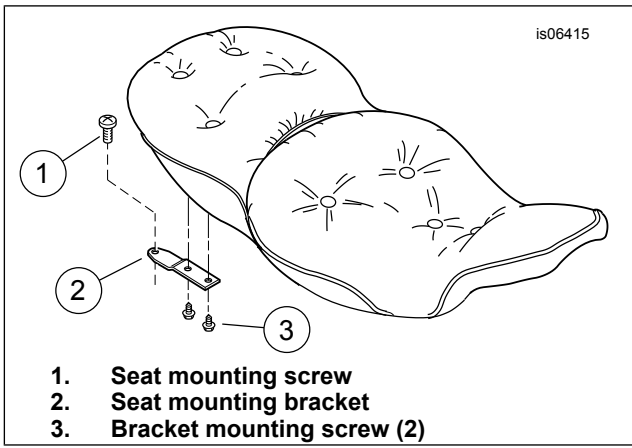
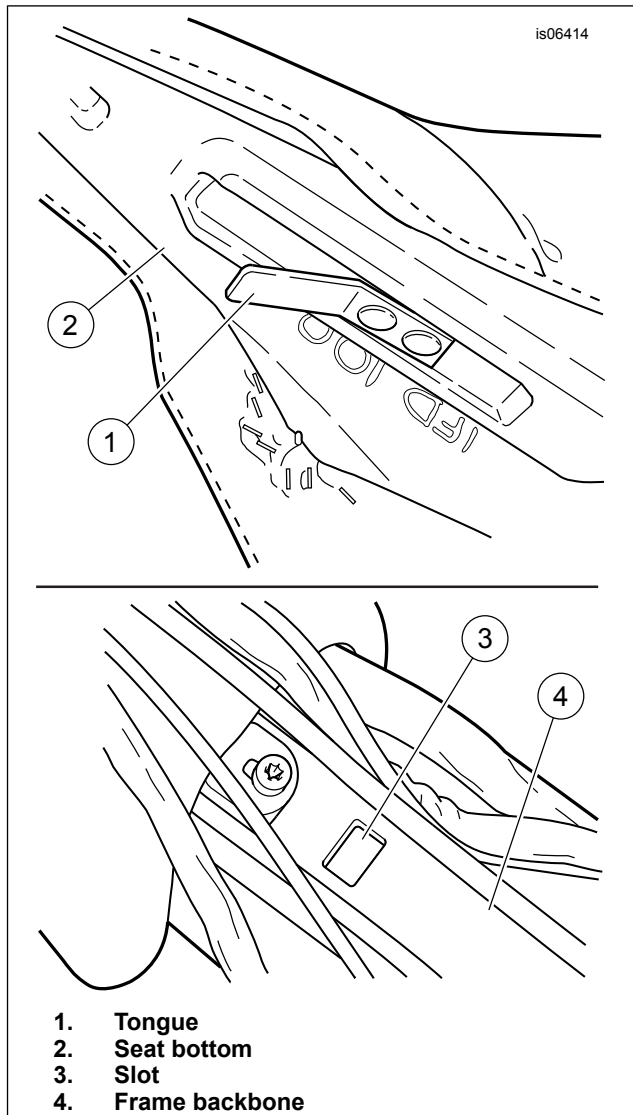

Figure 1. Seat Rear Mounting Bracket
Figure 2. Seat Front Mounting
4. See Figure 1. Remove the screw (1) to detach the seat rear mounting bracket (2) from the rear fender.
5. See Figure 2. **For models with Tour-Pak but NO rear speakers:** For models with Tour-Pak **AND** rear speakers: For models **WITHOUT** Tour-Pak: Slide the seat rearward to free the tongue (1) at the front of the seat from the slot (3) in the frame backbone (4), then remove the seat from the frame.
- c. Slide the seat rearward **slightly** to free the tongue (1) at the front of the seat from the slot (3) in the frame backbone (4), then remove the seat from the frame.
- e. Slide the seat rearward **slightly** to free the tongue (1) at the front of the seat from the slot (3) in the frame backbone (4), then remove the seat from the frame.
6. See Figure 1. Remove two screws (3) to free the rear mounting bracket (2) from the bottom of the seat.
4. See Figure 2. **For models WITHOUT Tour-Pak:** Firmly push the front of the seat downward and rearward until the tongue (1) engages the slot (3) in the frame backbone (4). **For models WITH Tour-Pak:** NOTE for models WITH REAR SPEAKERS: If necessary, have an assistant stand behind the motorcycle and firmly grasp the Tour-Pak. Loosen or remove the screws that hold the bottom of the Tour-Pak to the support rail. Take care to not pull the Tour-Pak back far enough to begin pulling wires through the grommets, as the wires may be damaged. Have the assistant carefully slide the loose Tour-Pak back SLIGHTLY and hold in that position until the new seat is installed.
- c. Use the other hand to firmly push the front of the seat downward and rearward until the tongue (1) engages the slot (3) in the frame backbone (4).
7. See Figure 1. Install the screw (1) through the seat mounting bracket hole and into the retention nut, and tighten to 2.3–4.5 N·m (20–40 in-lbs).